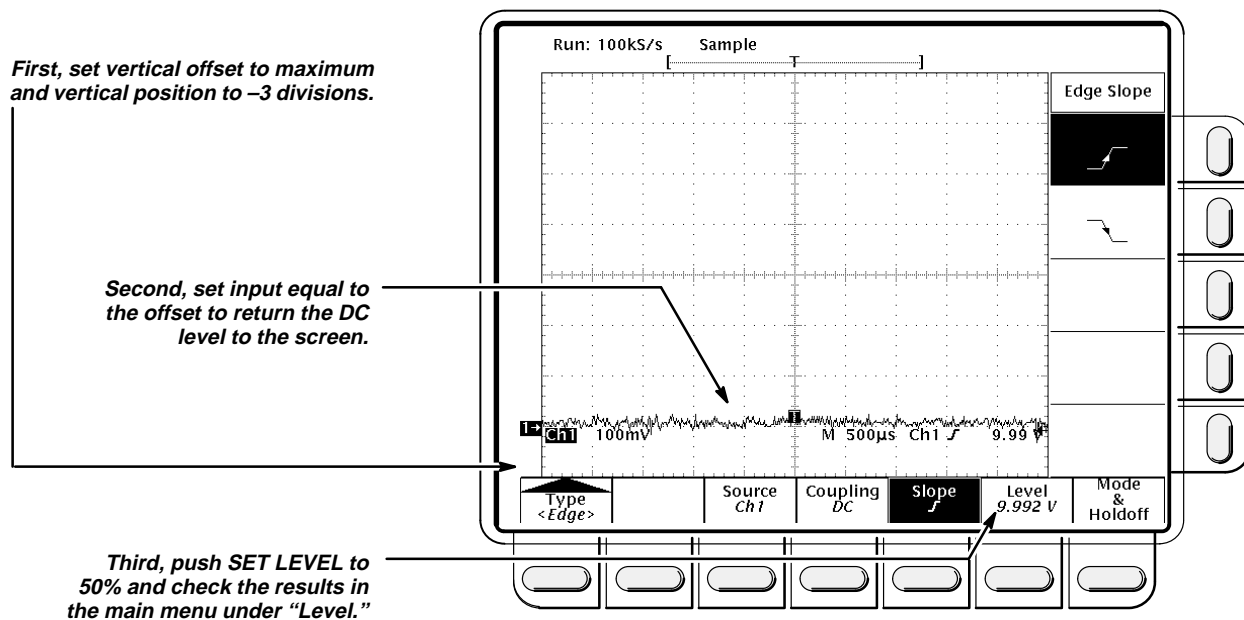

Figure 1-17: Measurement of Trigger-level Accuracy
- CHECK that the **Level** readout in the main menu is within 9.940 V to 10.060 V, inclusive. See Figure 1-17.